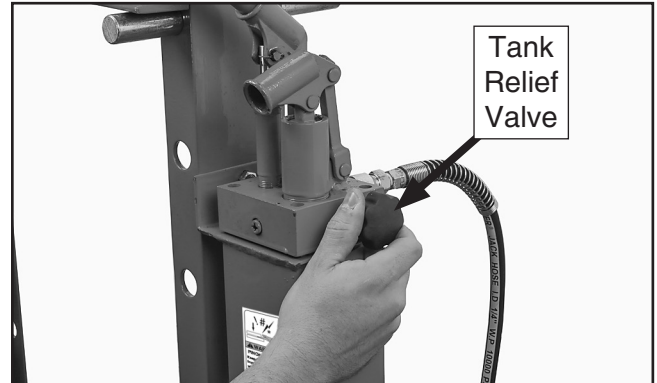

Figure 16. Rotating tank relief valve.
5. Rotate tank relief valve (see **Figure 16**) counterclockwise to release pressure on ram, then remove workpiece.